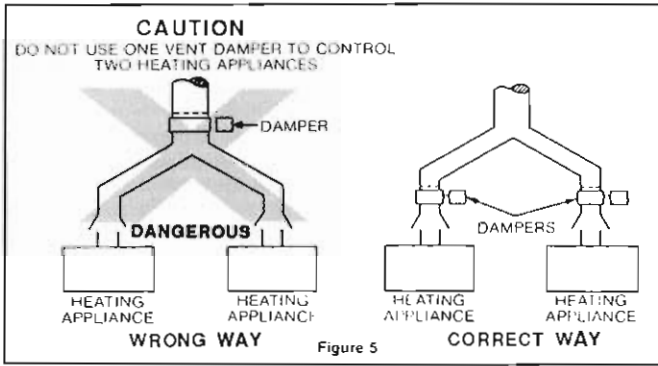

Figure 5
3. This device must be located in a venting system or section of a venting system so that it serves only the single appliance for which it is installed. (See Fig.5).